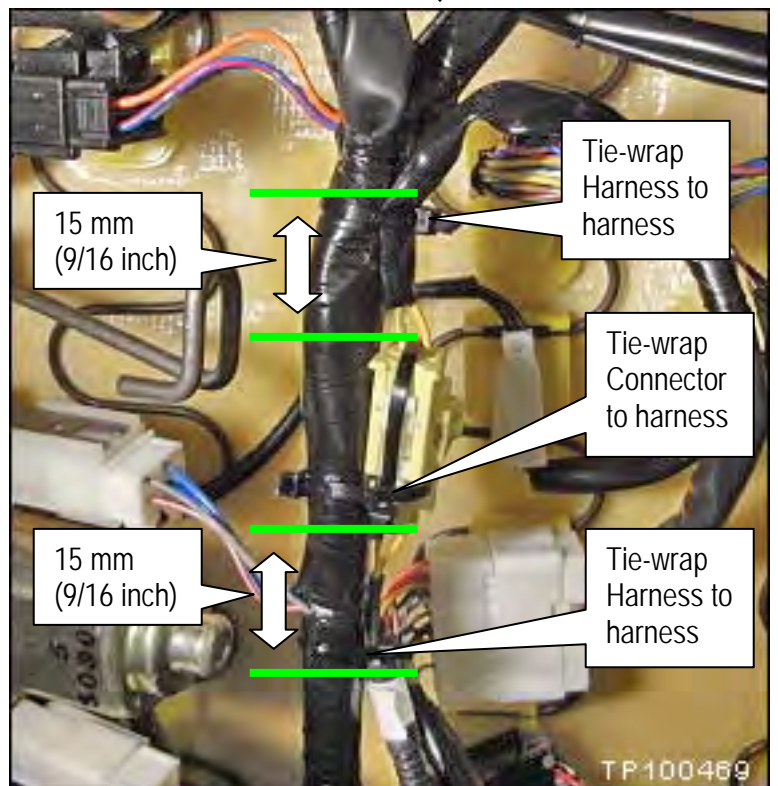

Figure 9b
- One tie-wrap (P/N 24216-S5800) - harness to connector - as shown in Figure 9b.
- Two tie-wraps (P/N 24216-S5800) - harness to harness - 15 mm (9/16 inch) from the connector as shown in Figure 9b.